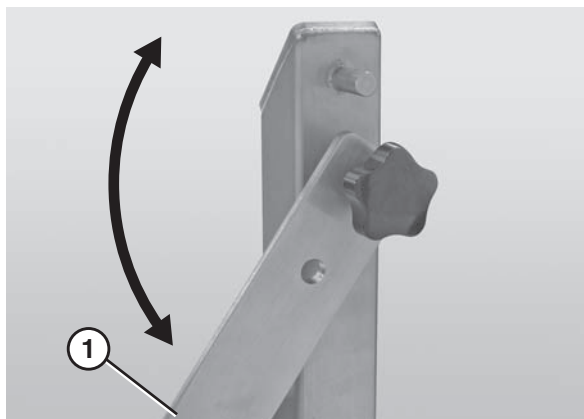

Figure 48
2. Lower the quick release arm (**Figure 48, item 1**) on one of the stands. *Note: if the conveyor is not equipped with Quick Release (QR Type) stands, it will be necessary to remove the entire stand.* For detailed instructions, refer to the “Sanitary Support Stands Installation, Maintenance and Parts Manual.”